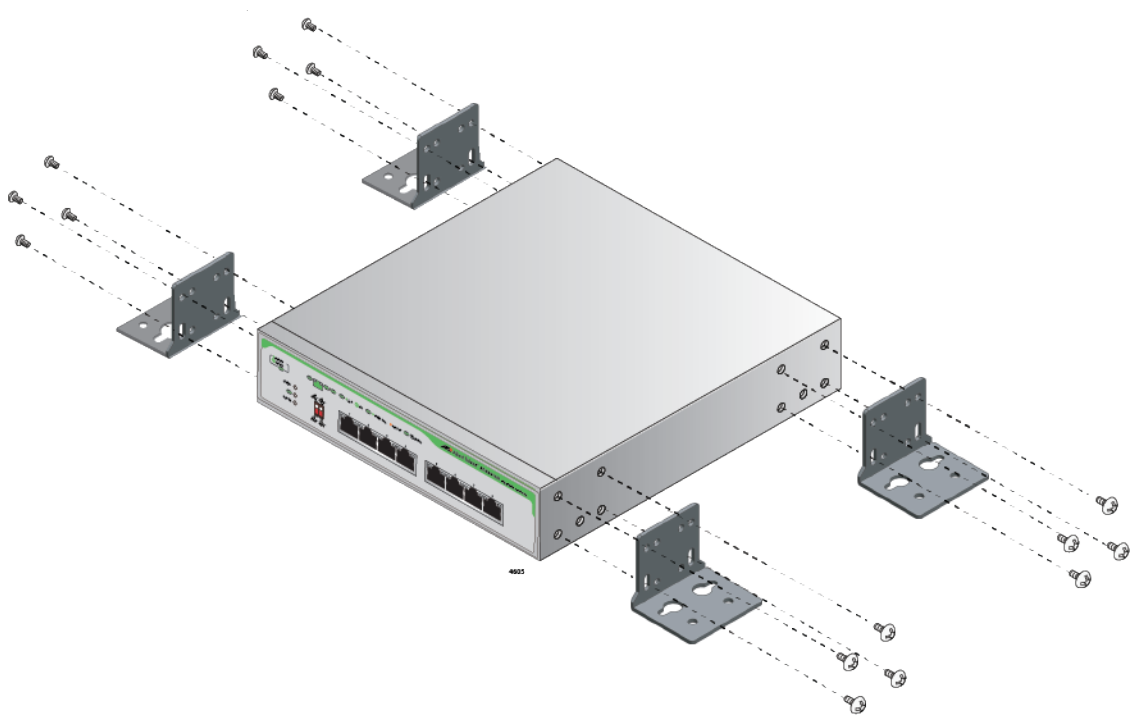

Figure 17. Attaching the Wall Brackets
3. Attach each bracket to the switch using four screws as shown in Figure 17 on page 44.